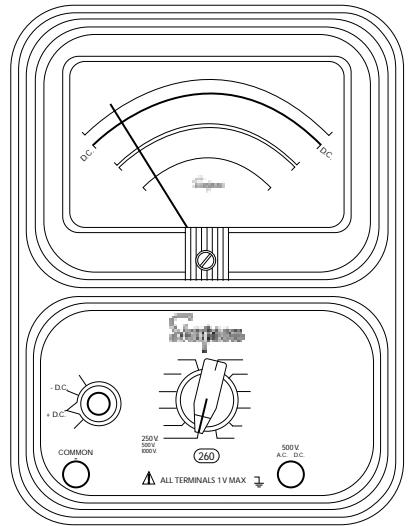

Figure 4-2. Jacks and Switch Positions for Measuring DC Voltage, 0-500V Range
- Set the function switch at +DC (Figure 4-2).